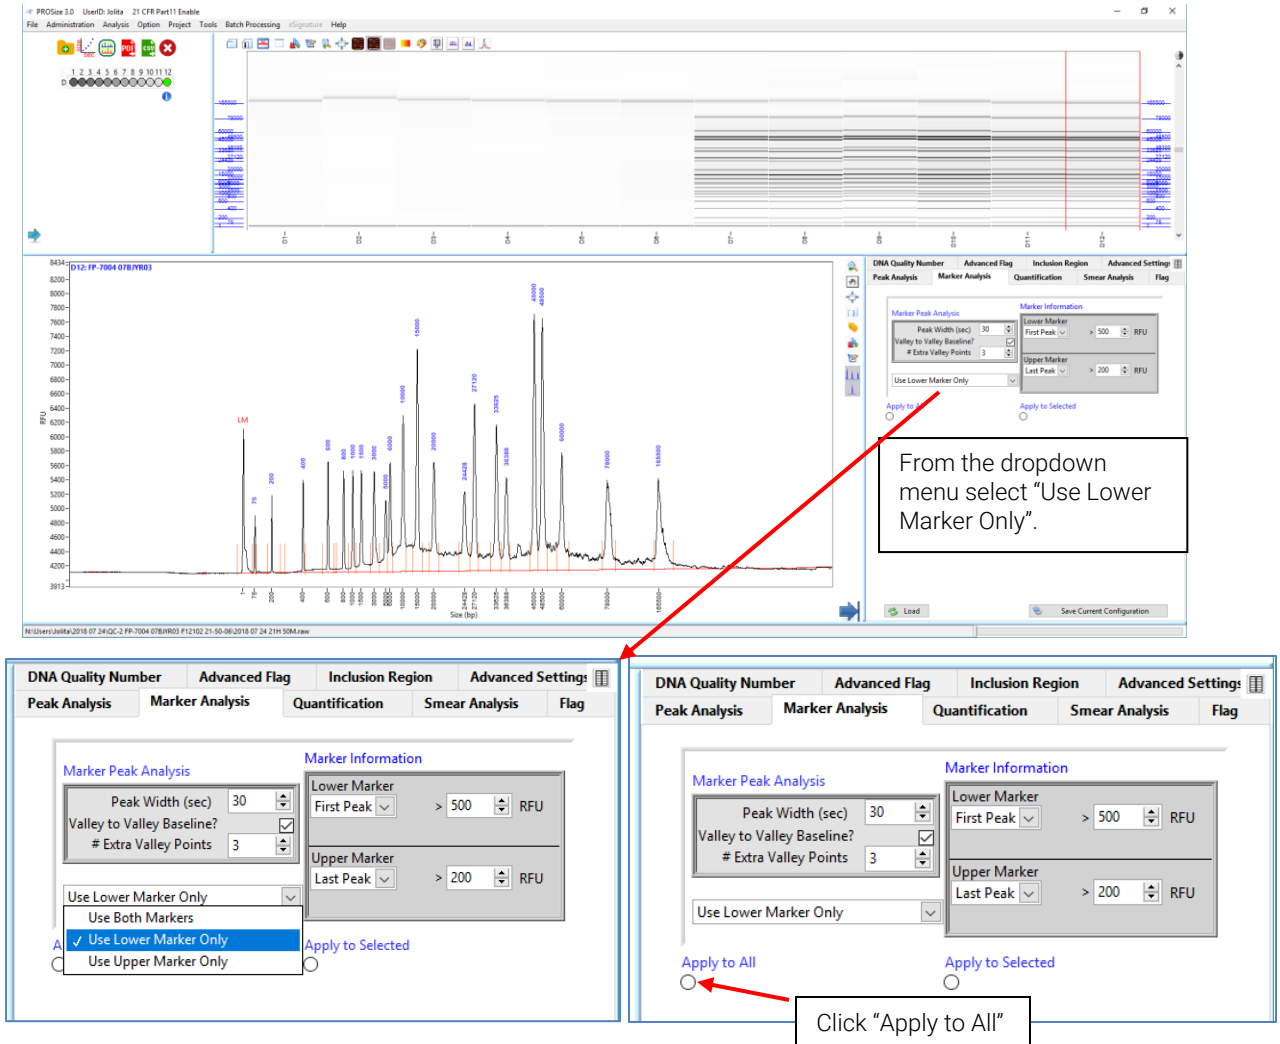

Figure B1. ProSize data analysis software window for selecting the Lower Marker Only analysis option.
1. In the ProSize data analysis software select the **Marker Analysis** settings (Figure B1).
2. Click on the drop-down menu as shown in Figure B1 and select "Use Lower Marker Only".